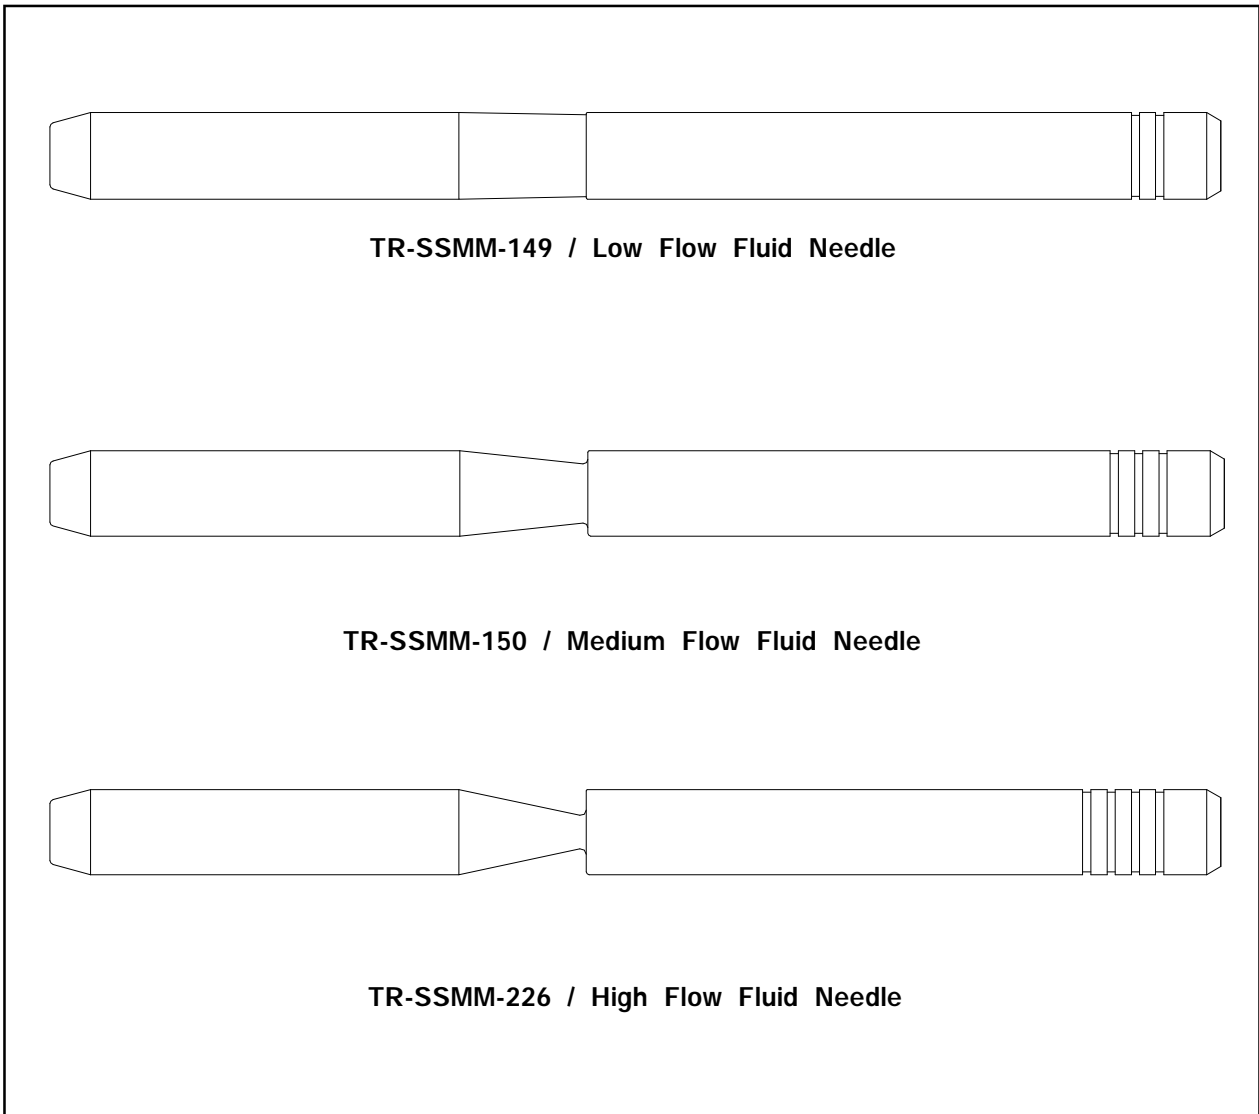

Figure 3: Weeping MVR Fluid Needles
- ▶ When replacing MVR fluid needles, use Figure 3 below to determine the correct size and part number. The number of grooves at the top of the needle correlates to the dash number of the part number.